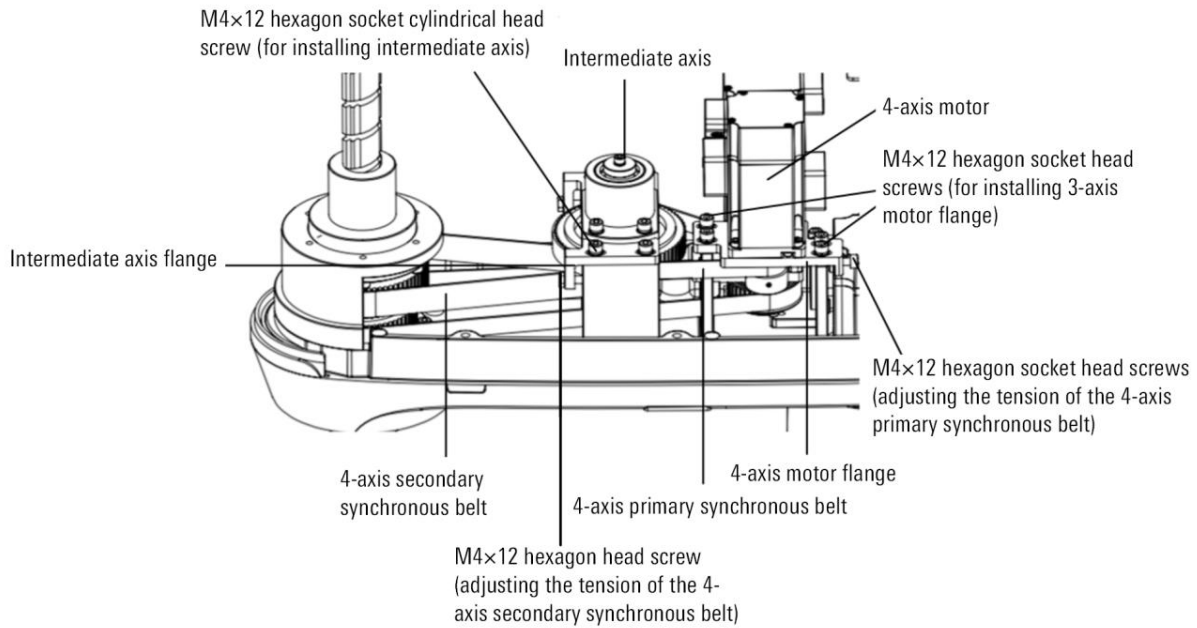

Figure 8-14 Diagram of disassembling the intermediate axis
- Step3. Use an Allen wrench to remove the four M4×12 inner hexagon socket head screws for installing the flange of the 4-axis motor, and then slowly loosen the a M4×12 inner hexagon socket head screw that adjusts the tension of the 4-axis primary timing belt. Remove the flanges of the 4-axis motor and 4-axis motor together, as shown in Figure 8-14.
- Step4. Use an Allen wrench to unscrew and remove the four M4×12 hexagon socket head screws for installing the intermediate axis flange, and then use a normal wrench to slowly loosen the two M4×12 hexagon heads screws that adjust the tension of the 4-axis secondary timing belt. Take off the intermediate axis and the intermediate axis flange together, and take off the 4-axis primary timing belt, as shown in Figure 8-14.